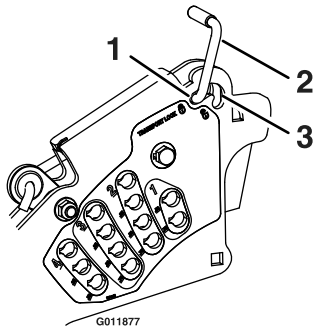

Figure 11
Position in the transport latching position to automatically latch the cutting deck when raised to the transport position (see item 1 in Figure 11).
In the non-latching position, the deck will automatically return to the cutting height when the pedal is lowered (see item 3 in Figure 11).